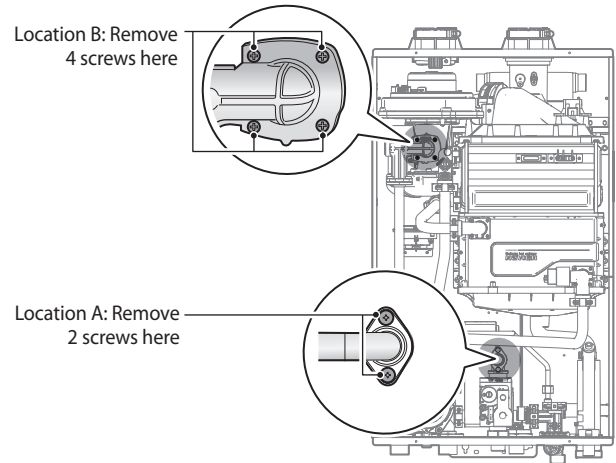

Figure 3. Detaching Gas Valve from Gas Inlet Pipe and Fan Motor Assembly
9. Use a Phillips screwdriver to remove the two screws at location A - the connection below the gas valve where it connects to the pipe. See Figure 3 for reference. Once the screws are removed, carefully separate the pipe from the gas valve.